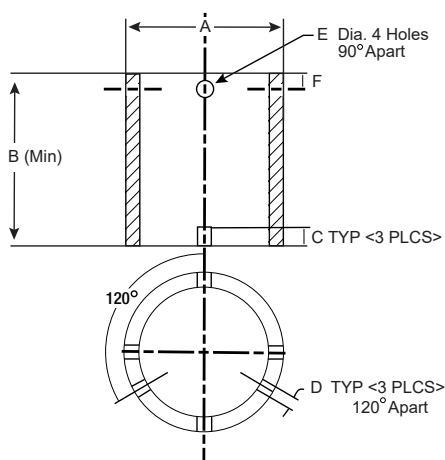
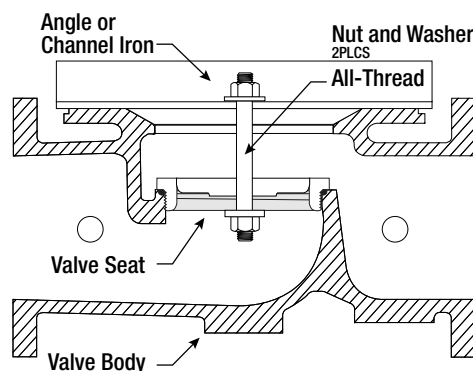

Figure 5
Figure 6
7. Inspect valve seat. If seat is not damaged, removal is not necessary. Valve seats 6" and smaller are threaded into the body of the valve and require a seat removal tool (Figure 5) (Table 1 details the tool dimensions for seat removal). Valve seats 8" and larger are held in the valve body with stainless steel cap screws. Remove seat retaining screws and lift seat straight up (Figure 6).